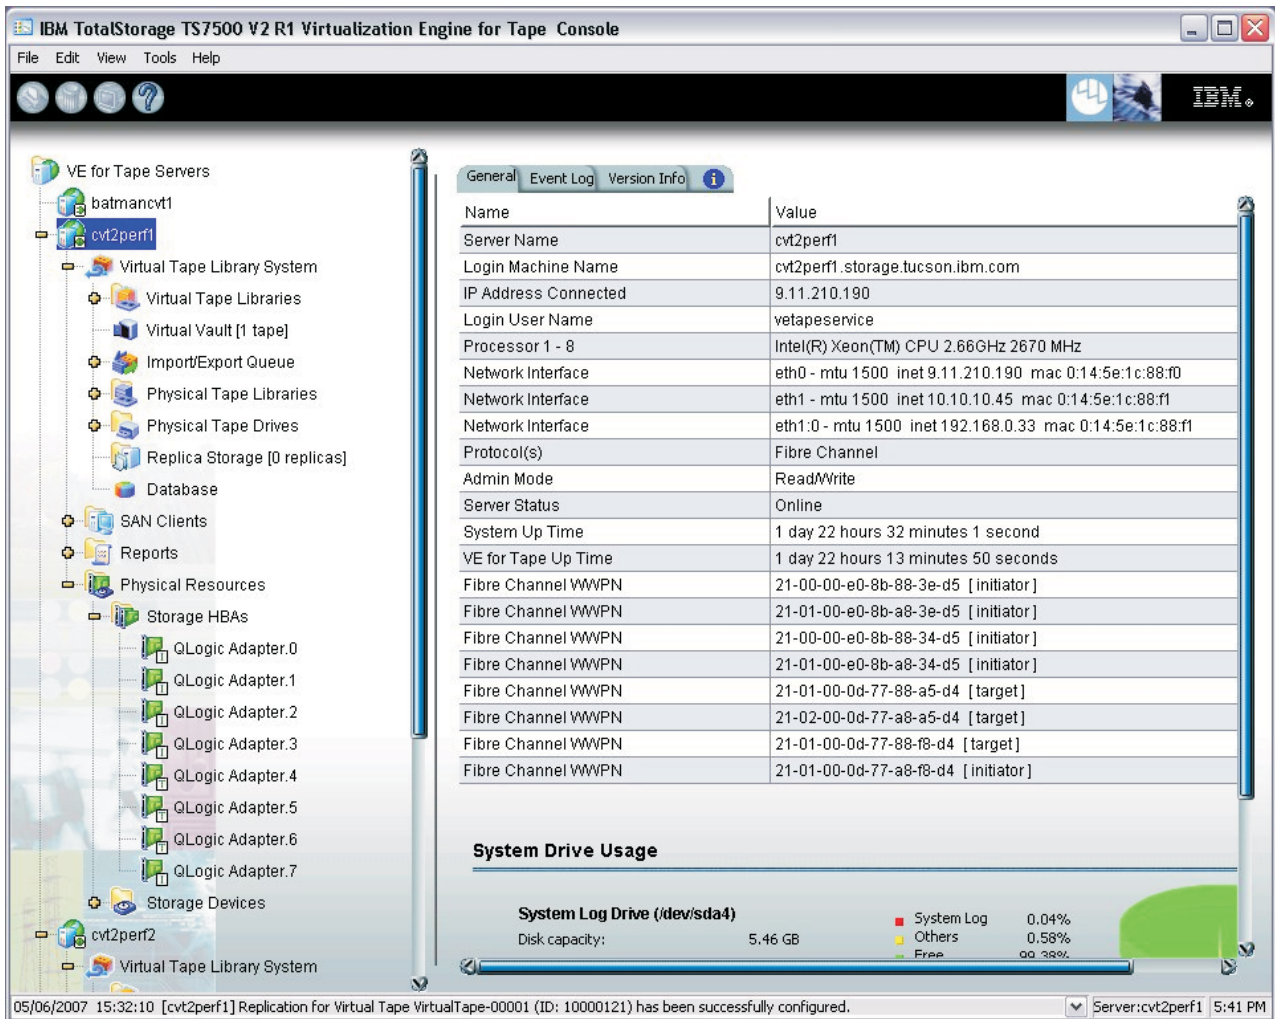

Figure 100. Server fibre channel port modes and WWPNs
- b. ___ Click the **General** tab. See Figure 100 on page 136.